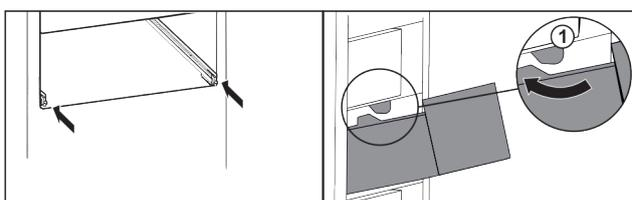

Fig. 40\*
- ▶ Guide the drawer around the stoppers Fig. 40 (1).